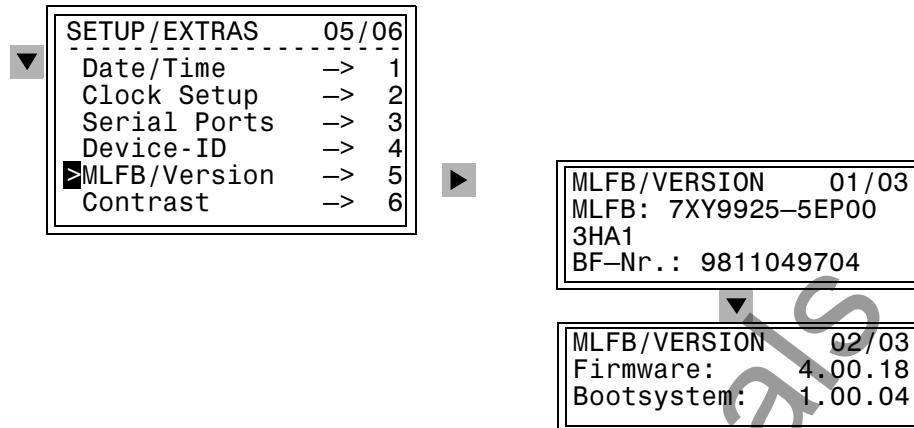

Figure 3-2 Display of device-specific data (example)
- Using the ▼ key, select the menu item **Setup/Extras** and switch to the selection **SETUP/EXTRAS** using the ▶ key. See Figure 3-2.